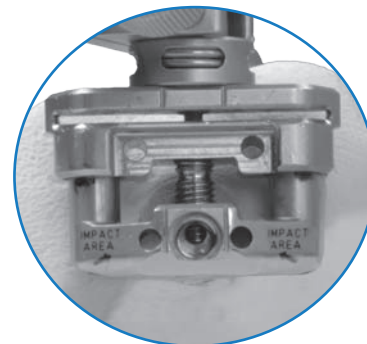

Fig.9
- If impaction is required, impact using the Inserter/Extractor handle or impact directly on the IM Anterior Cut Guide only at the location marked “IMPACT AREA” (Fig. 9).